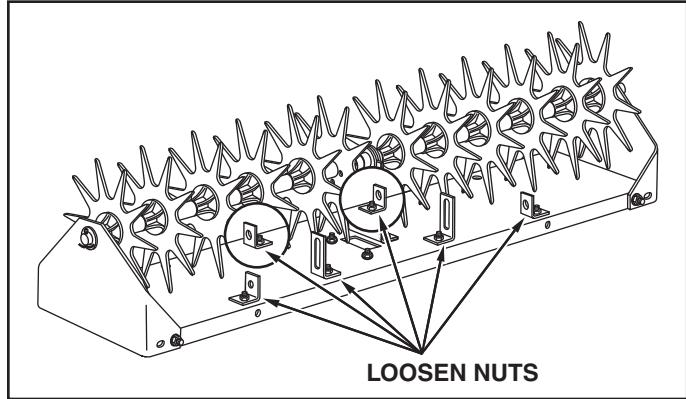

FIGURE 1
1. Loosen the nuts fastening the four angle brackets and the two hitch arm mount brackets to the tray. See figure 1.